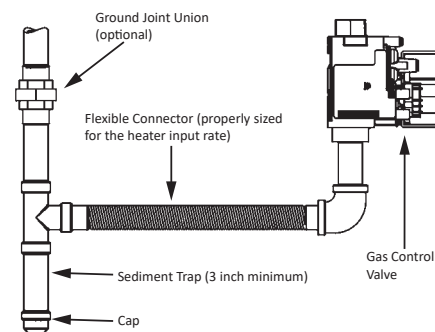
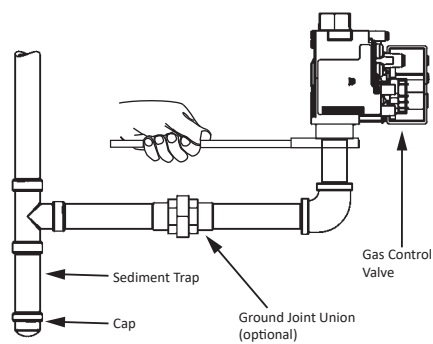

Figure 52. Flexible Pipe to Gas Valve
Figure 53. Black Pipe to Gas Valve
Follow the instructions below and see **Figure 52** and **Figure 53** for gas piping installation.
- Install a ground union between the water heater and the manual shut-off valve. This is to allow easy servicing. See **Figure 53** (page 42).